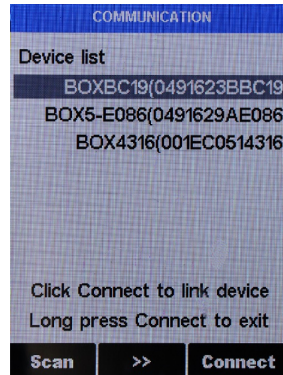

Figure 9.
5. Discoverable devices will begin to populate on the display with their name and MAC-Address (Figure 9).